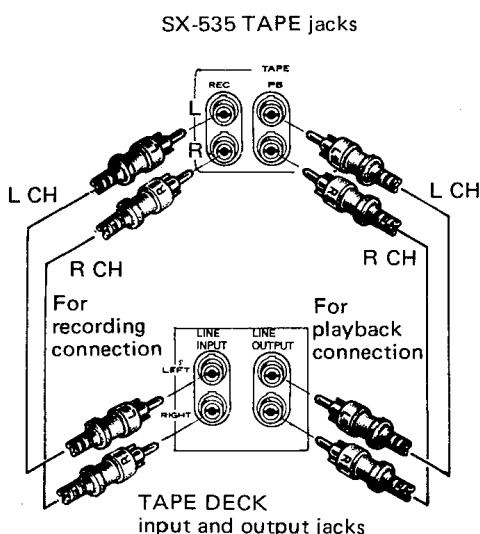

Fig. 8 — Connecting the SX-535 to tape deck.
- Connect the Receiver TAPE 1 REC output jacks to the tape deck recording input jacks (LINE INPUT), as shown in Fig. 8. The upper jack is for the left (L) channel and the lower for the right (R) channel.